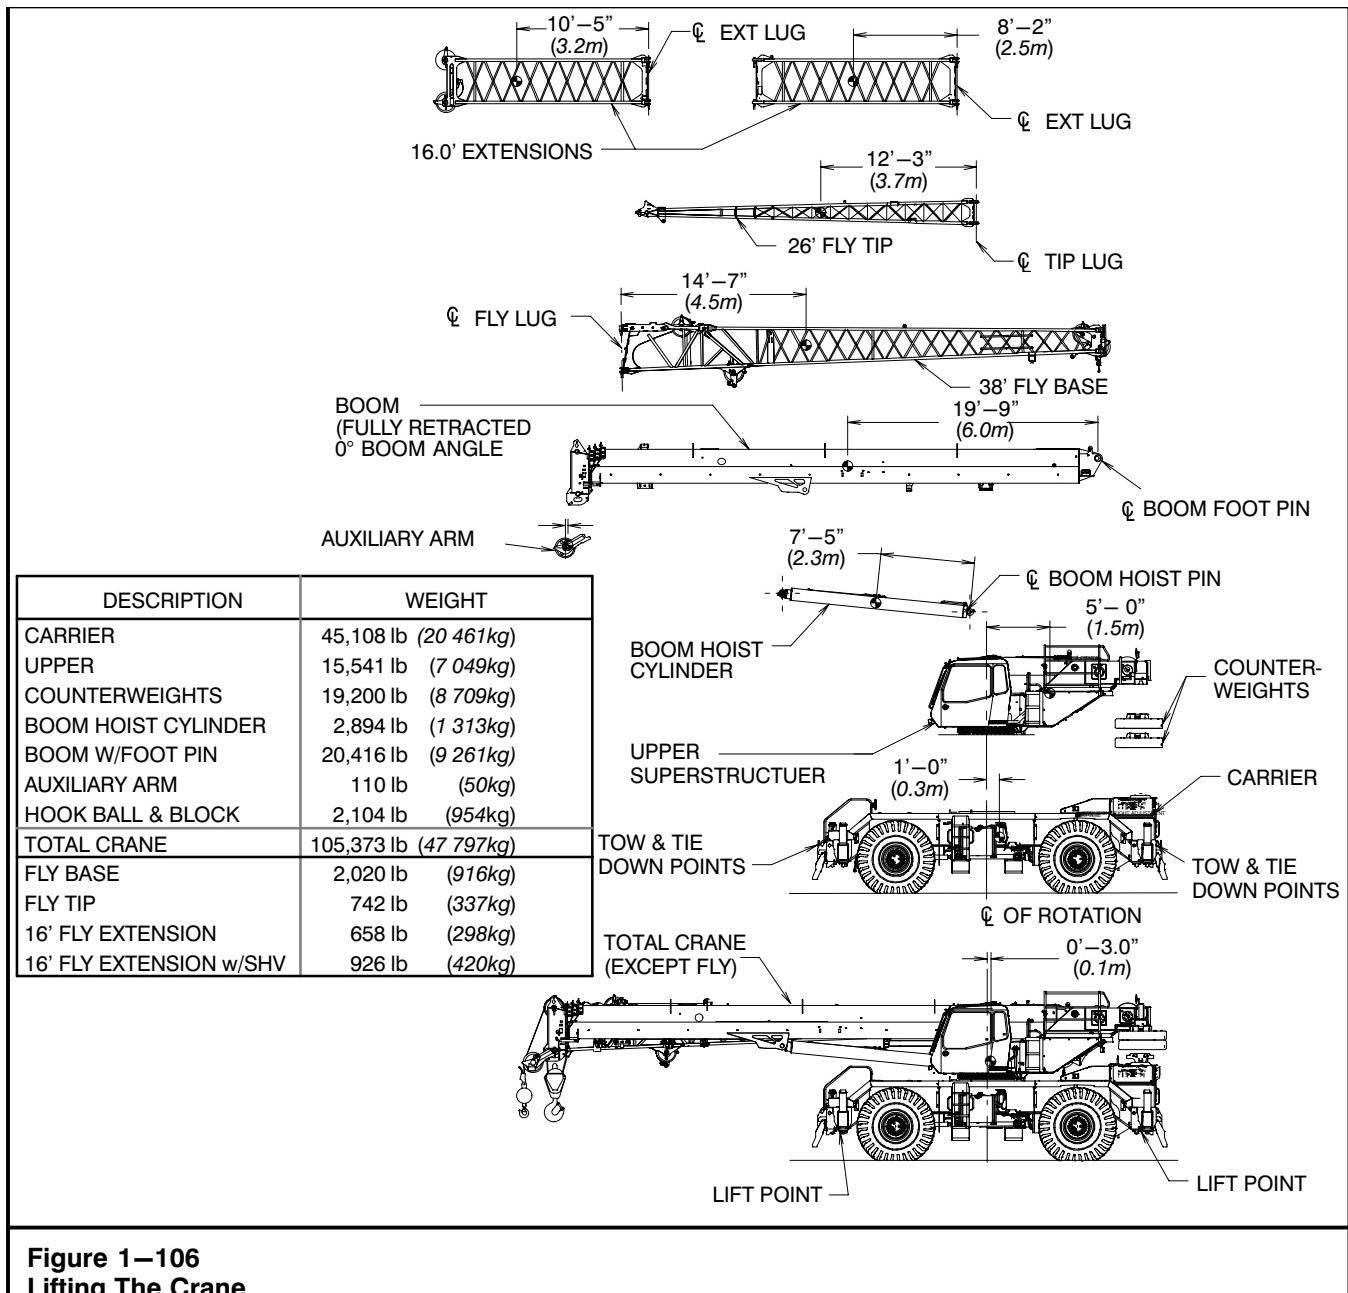

Figure 1–106
The entire crane (except the fly) can be lifted or the components may be removed from the crane and lifted individually. Refer to Figure 1–106 for the center of gravity (CG) and weights for the entire crane and the individual components. The following conditions and precautions must be met before lifting the crane or removing any component.
- Use only properly attached nylon straps to lift fly base or fly tip to prevent damage to the component. Refer to Figure 1–13. Protect the straps from sharp edges.